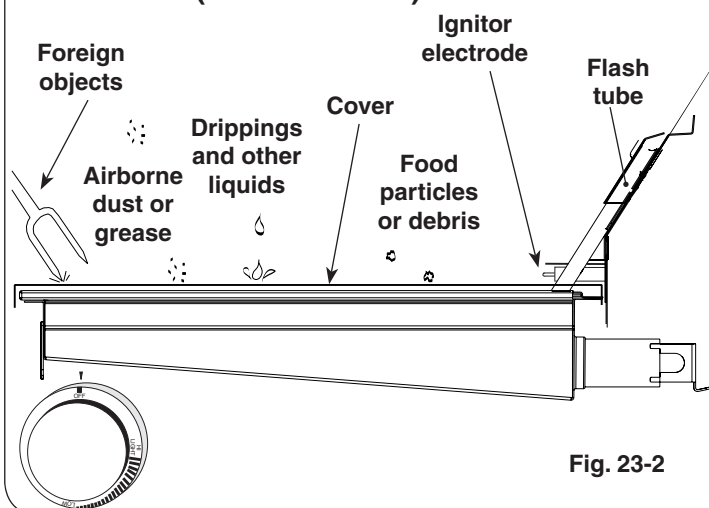

Fig. 23-2
- When not in use, **always** cover the infrared burner with the stainless-steel cover. This protects the burner from drippings (from other cooking), airborne particles, and foreign objects (Fig. 23-2).
- Do not strike or scratch the burner ceramic as it may chip, crack, or break (Fig. 23-2).